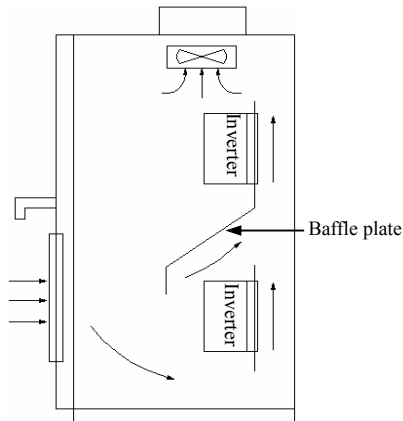

Figure 3-2 Installation Diagram of Multiple Inverters
- (3) If multiple inverters are installed up to down, baffle plate shall be applied between them as shown in Figure 3-2.
- Figure 3-2.